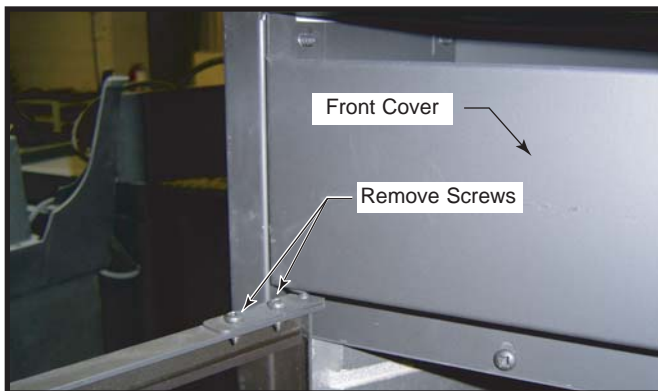

Fig. 2 Remove screws holding door at top.
3. Remove fixed front panel, or open doors (depending on model). If the model has operable glass or mesh doors, completely remove them from the unit before proceeding. To remove the doors, locate and remove the two (2) screws holding the door at the top. (Fig. 2) Hold the door at all times with one hand to prevent the door from falling when you undo the hinge screws.